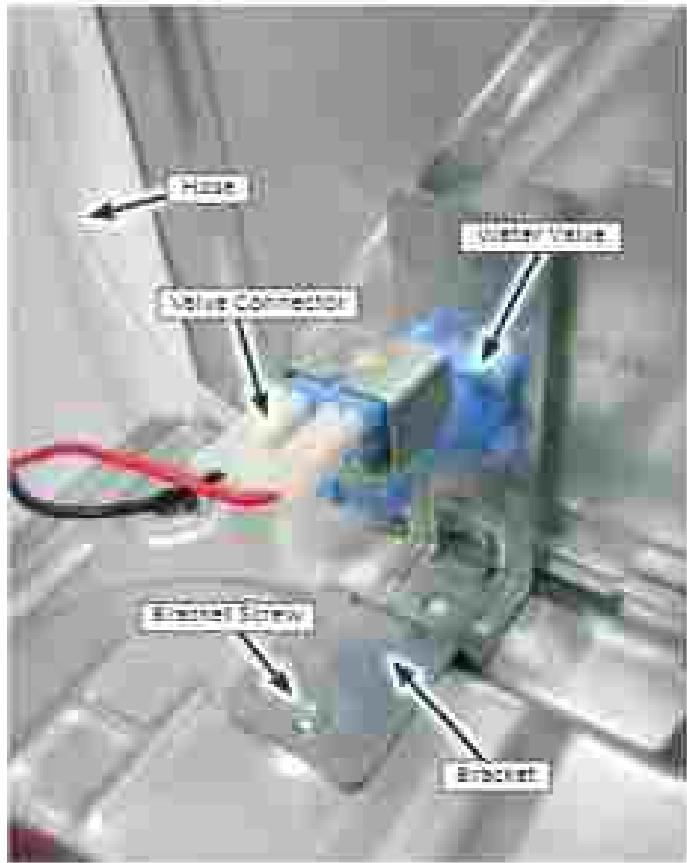

Figure 1 - Water valve viewed from right side.
5. Remove the 1/4" hex-head screw securing the water valve bracket to the dryer base. Remove water valve and bracket assembly from dryer. See Figures 1 & 2.